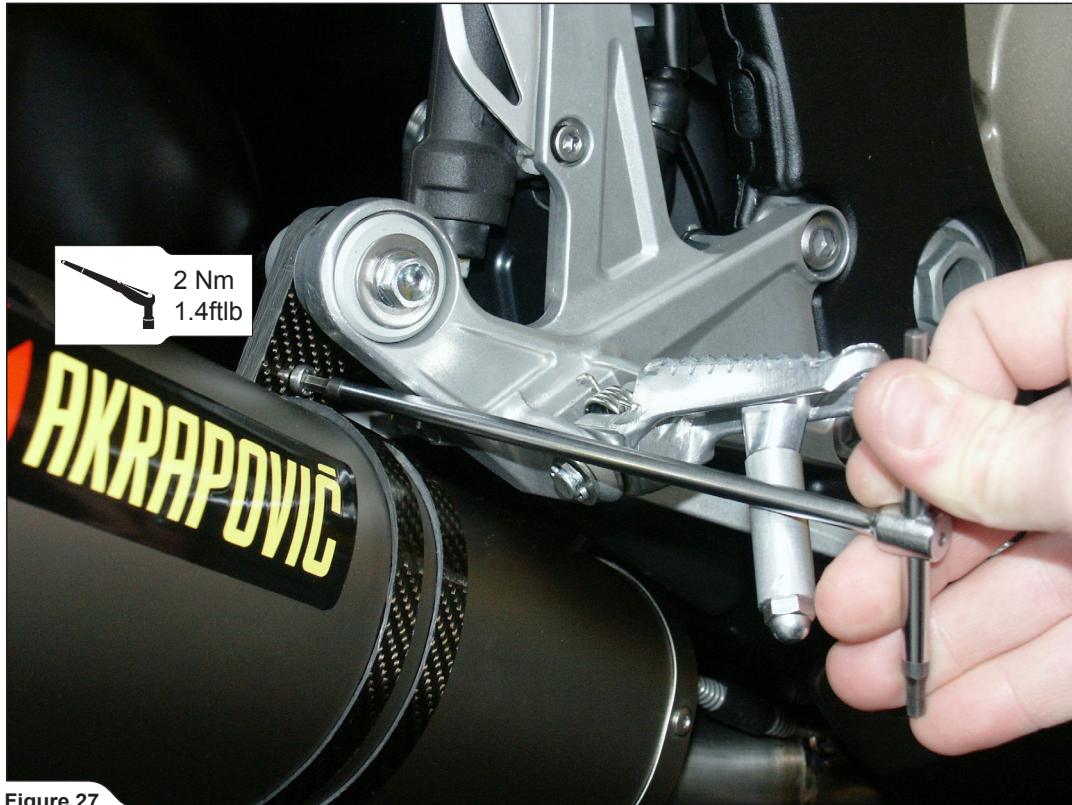

Figure 27
12. Tighten the bolts on the carbon-fiber clamp and clamp to stock muffler bracket joint (Figure 27, 28). Make sure the link pipe or muffler are not touching the frame, swing arm or any other part of the motorcycle. Tighten the metal clamp (Figure 29). For street legal (with exhaust valve!) Slip-On system only: attach the cover of the servo motor in the reverse order from the order in which it was removed (Figure 30).